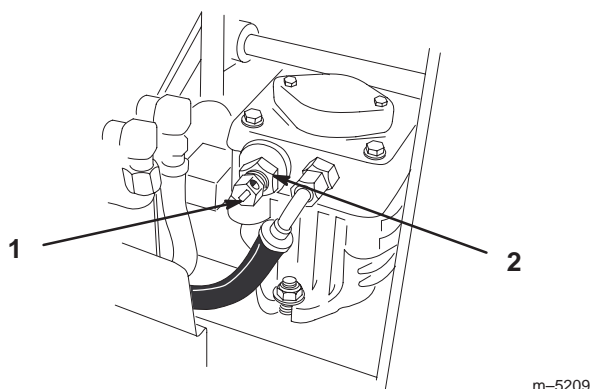

Figure 14
2. Loosen jam nuts and rotate by-pass valves open 5 turns to push. This allows hydraulic fluid to by-pass the pump and the wheels to turn (Fig. 14).